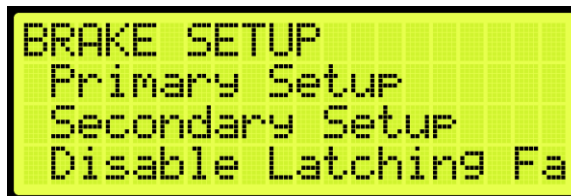

Figure 77: BRAKE SETUP Menu – Primary or Secondary Setup
2. From the BRAKE SETUP menu, scroll and select Primary or Secondary Setup (See Figure 77).
2. From the BRAKE SETUP menu, scroll and select Primary Setup (See Figure 77).